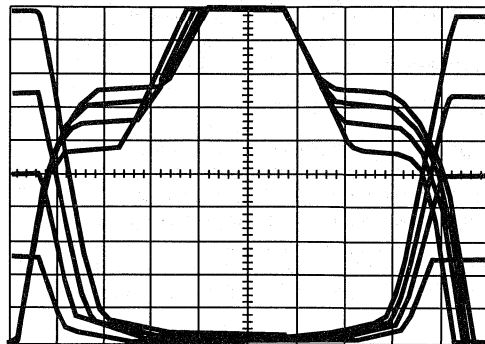
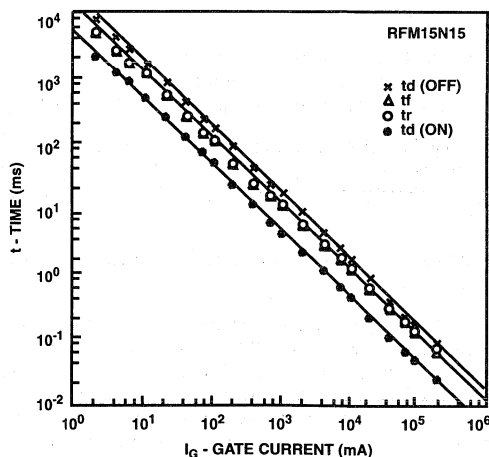

FIGURE 11. CURVES SIMILAR TO THOSE OF FIGURE 10(C) WITH DRAIN SUPPLY VOLTAGE FIXED AT FOUR VALUES
FIGURE 12. VARIOUS TIME MEASUREMENTS COMPARED TO THE INVERSE SCALING SUGGESTED BY FIGURE 11.
Figure 11 is a family of curves similar to Figure 10(C), where the drain supply voltage is fixed at four values. Note that the ordinate is 10V full scale for the gate voltage, while it is normalized to 100% of maximum-rated drain voltage for the
Waveforms of Figure 11 will scale in an inverse manner with gate current. Driving current was varied from  $\pm 200\text{mA}$  to  $\pm 2\mu\text{A}$  for the device of Figure 11. Measurements of delay time (on), rise time, delay time (off), and fall time are plotted in Figure 12 and compared to the inverse scaling suggested by Figure 11.
inverse scaling. This condition was not noted on Figure 12 for gate currents as low as  $\pm 2\mu\text{A}$ .
Large gate currents result in very fast switching waveforms. The gate of each hex cell is accessed through a gate pad and gate runners, which are of a low resistivity metal followed by buried polysilicon of a moderate resistivity. As a result, the high gate currents cause a propagation delay to exist for those cells far removed from the gate runners. This effect is not seen in Figure 12, even though the gate current was increased to  $\pm 200\text{mA}$ .
1. Mark eleven small x's along the gate waveform of Figure 11 dividing it into 10 equal voltage segments; for example,  $V_G = 0, 1, 2, \dots, 9, 10\text{V}$ .
6. Create 10 more time segments for the right half of Figure 11 corresponding to an average gate voltage of 9.5, 8.5, . . . 1.5, 0.5 volts. Call these segments 11, 12, . . . 19, 20.
Generally, the gate-voltage plateau of Figure 11 will not be located at the middle of the pulse-generator amplitude (5 volts). As a result, rise and fall times measured this way experience differing gate currents and are "nonsymmetrical". This type of measurement will also lead one to observe temperature sensitivities, load-current sensitivities, and device-to-device variability, all of which are more circuit dependent than device dependent.
output current loops. This voltage,  $L di/dt$ , may be approximated and applied to the gate-voltage waveform after scaling Figure 12 for the actual gate currents. Generally, this effect is not appreciable for gate current small relative to  $\pm 100\text{mA}$ . A very loose circuit wiring arrangement with inches of mutually common source wire will exaggerate this effect.